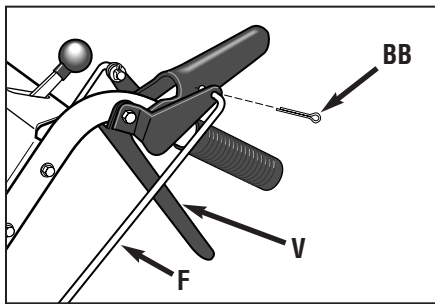

Figure 2-6A: Attach wheel drive control rod to lever.
4. At upper end of control rod, insert angled end into Wheel Drive Control lever (V, Figure 2-6A) and attach with a cotter pin (BB). Bend ends of cotter pin over rod to secure.